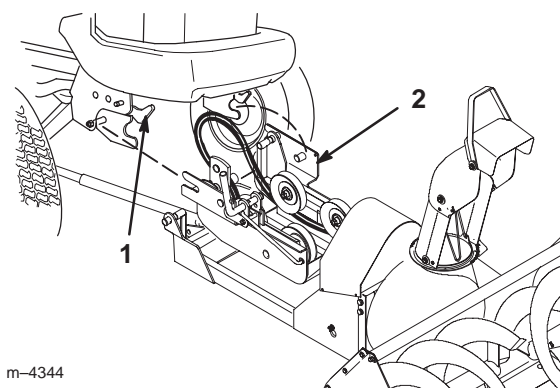

Figure 11
4. With the high-low range selector in neutral (N), pull the tractor forward toward the snowthrower until the end of the snowthrower frame is just underneath the tractor's front Attach-A-Matic hitch (Fig. 11).
5. Ensure the latches on the front Attach-A-Matic hitch are open (Fig. 11).
6. Slide the pulley box completely into the hitch (Fig. 11).
7. Close the latches by rotating them down (Fig. 11).